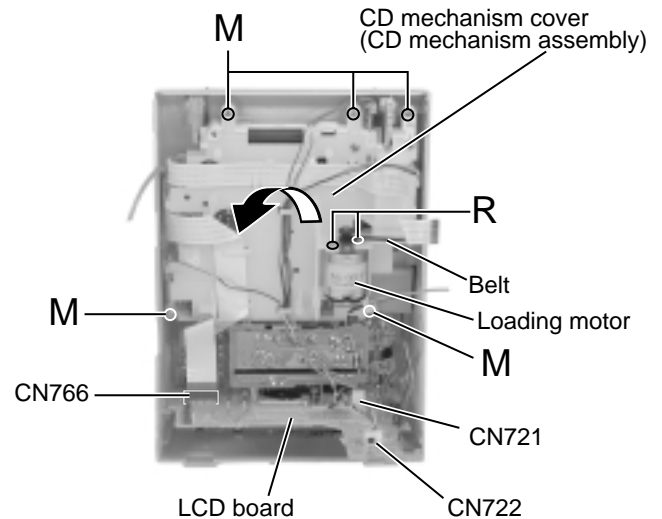

Fig.18
■ Removing the CD mechanism assembly (See Fig.18 to 21)
- Prior to performing the following procedure, remove the CD mechanism assembly and the LED board (A) / (B).
■ Removing the loading motor (See Fig.18)